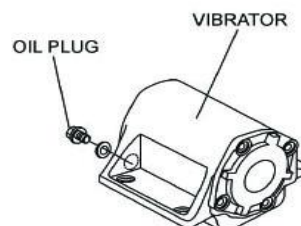

Figure 5. Vibrator Oil Plug
2. Check vibrator oil level by removing the plug (vibrator oil gauge) as shown in Figure 5. The oil level should be up to the oil plug. The vibrator holds 140cc (approximately 1 pint). **IMPORTANT**, if oil is required, replace using only SAE 10W-30 motor oil.
1. When changing the vibrator oil, remove the drain plug located at the bottom-right of the vibrator (Figure 5), and simply tip the compactor to drain the oil. Note that the oil will drain more easily while it is hot. Remember to use only 10W-30 motor oil when replacing vibrator oil.